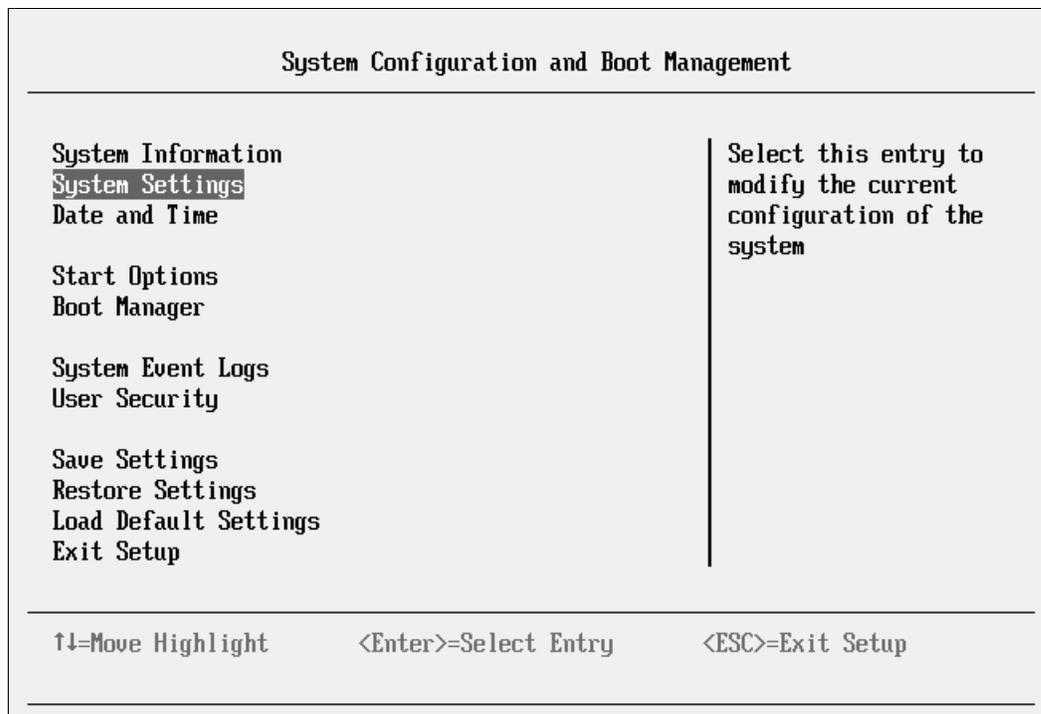

Figure 9-1 System Configuration and Boot Management panel of the Blade server UEFI utility
3. In the System Configuration and Boot Management panel (Figure 9-1) of the UEFI utility, select **System Settings**.